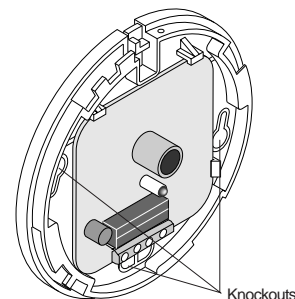

Figure 6. Detector Knockout Locations
3. Remove the appropriate wiring and mounting knockout holes from the base. See Figure 6.